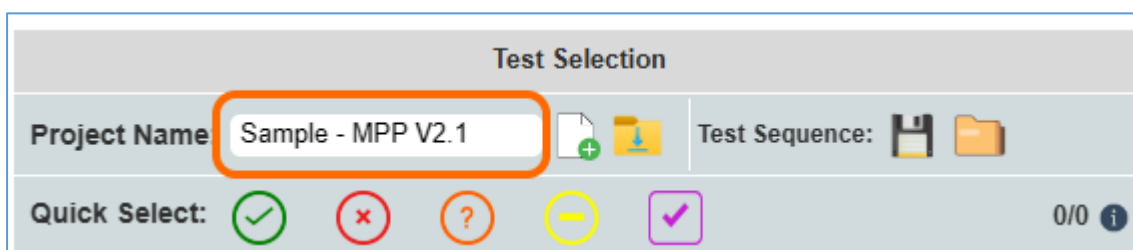

FIGURE 8.28: CREATE NEW PROJECT— #6
3. The new project will be created with the provided Project Name and Test Mode as shown in the Figure 8.28 example below. The user can now proceed with the test configuration.